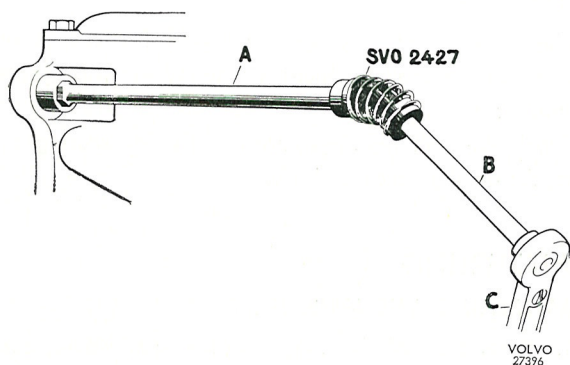
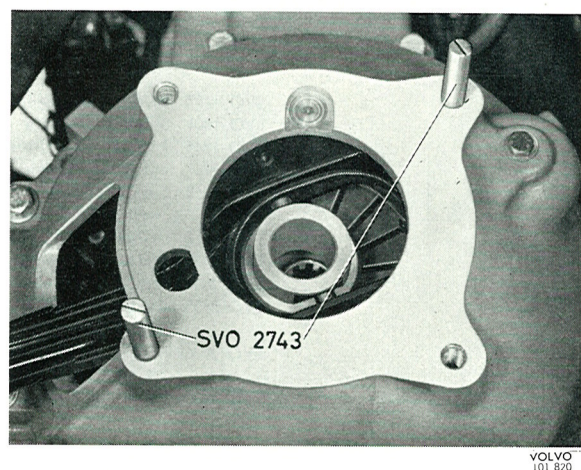

Fig. 4-28. Removing the gearbox bolts
Fig. 4-43. Guide pins for gearbox
6. Slacken the right upper and left lower gearbox bolts with spanner SVO 2487, swivelling joint SVO 2427, extension piece with 3/8" square end and ratchet handle, see Fig. 4-28. Fit two guide pins SVO 2743, see Fig. 4-43. Slacken the other two bolts. Pull out the gearbox backwards and lower it.
Make sure that guide pins SVO 2743 are fitted according to Fig. 4-43. Fitting is done in the reverse order to removing. Fill up the gearbox with oil.